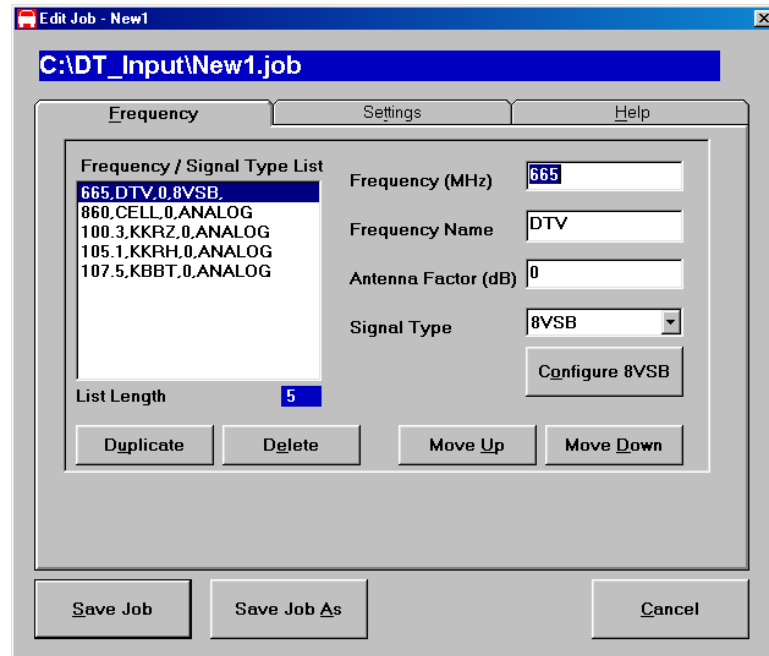

Figure 9: Job Editor with Frequency List tab selected
- ◆ **Signal Units:** Selects the unit of measure for RF level data recorded in the data file. The choices are dBuV, dBm, dBuV/M. When dBuV/M is selected, the Antenna Factor entry is used. See figure 9.